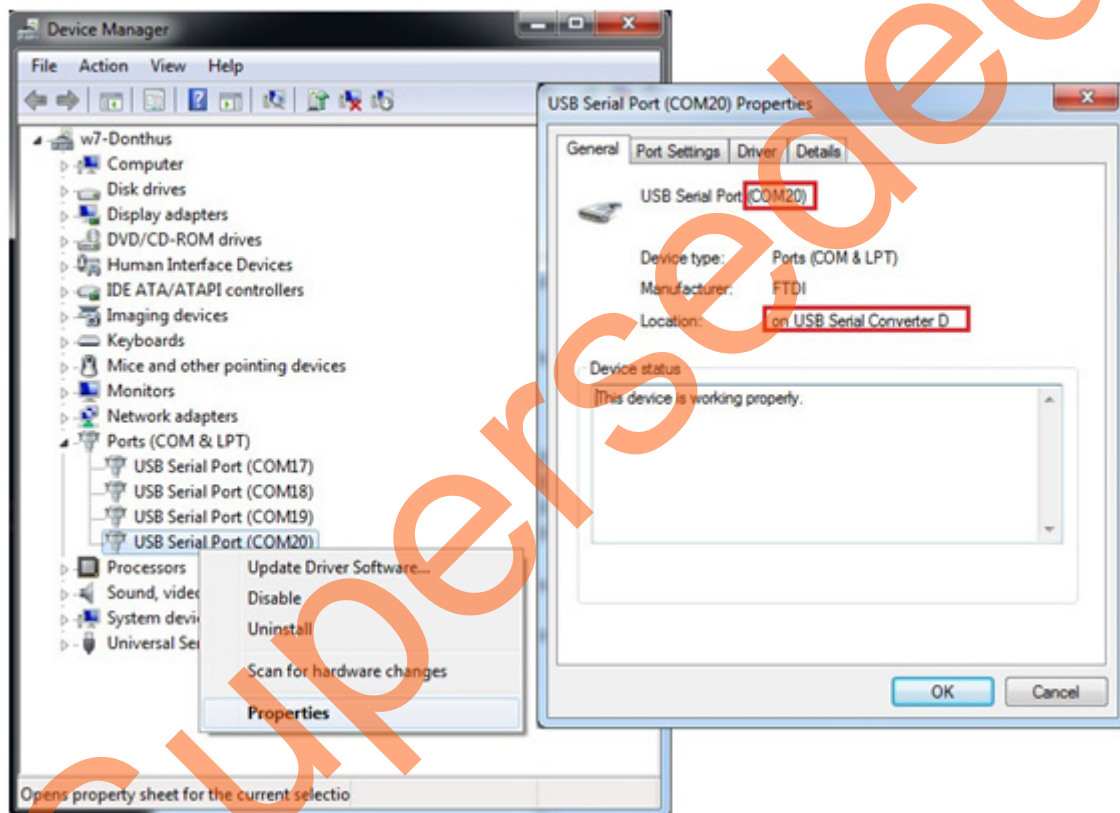

Figure 4 • USB to UART Bridge Drivers
4. Of the four COM ports, select the one with **Location** as **on USD Serial Converter D**. Figure 4 shows an example of **Device Manager** window that has the **USB Serial Port** and its **properties** showing the port number and location. The COM port number is required to run the demo design, make a note of it.